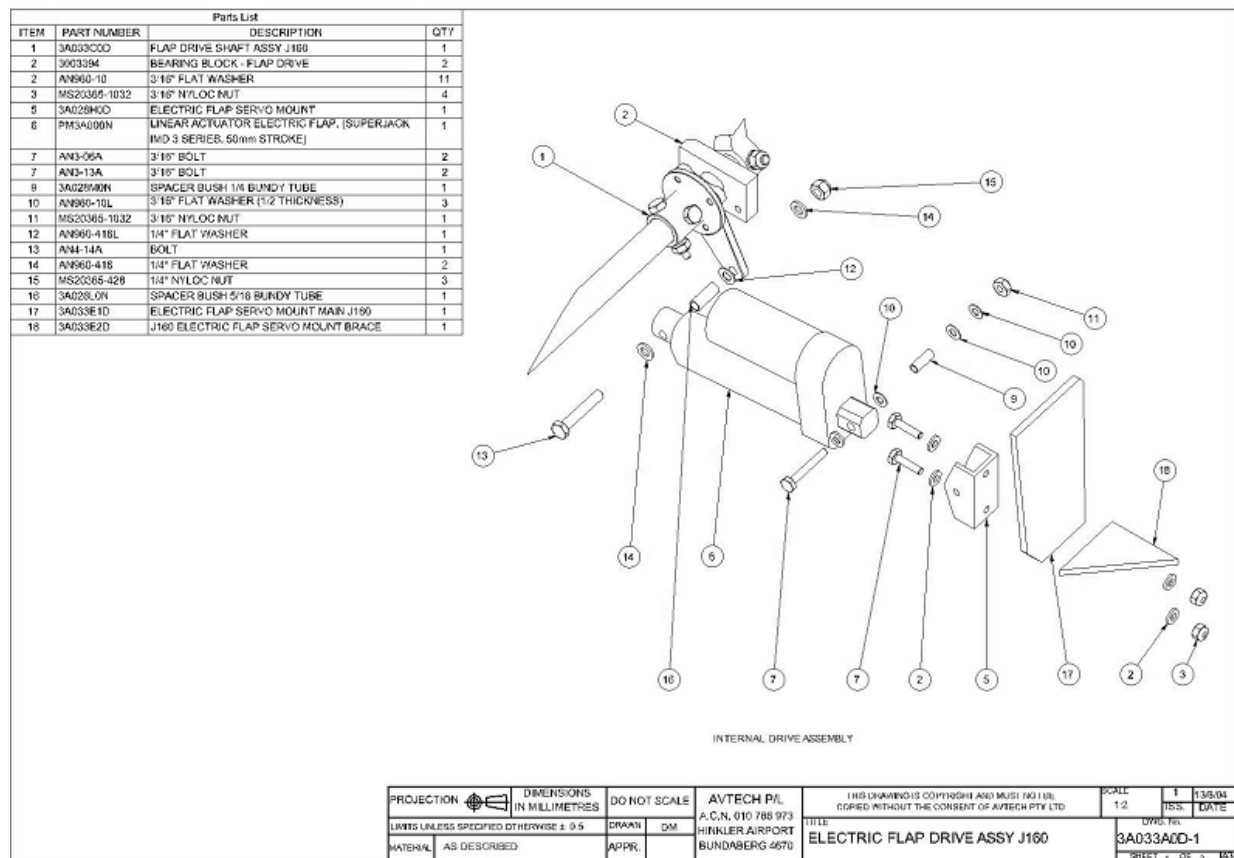
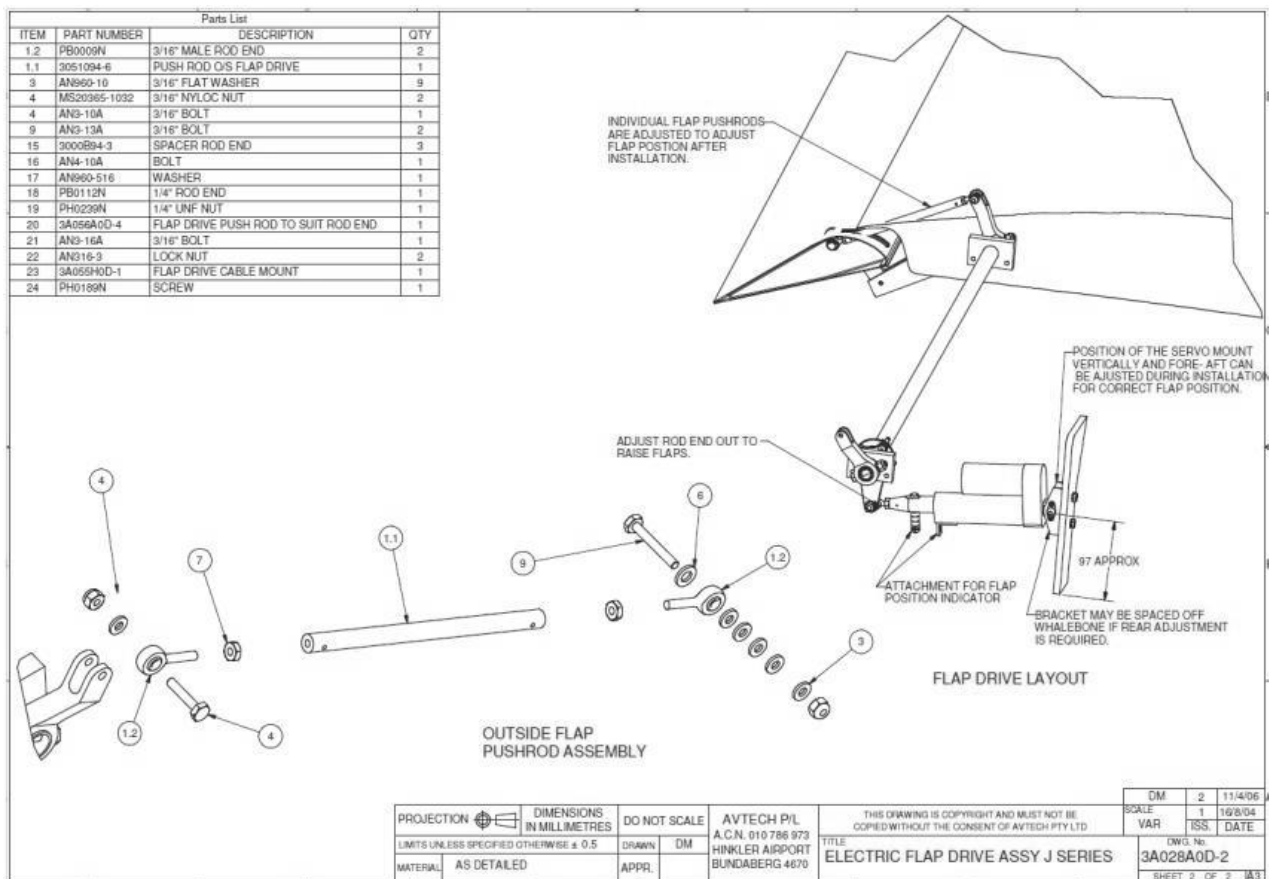

Figure 115 – Flap Controls – Sheet 1 (Fibreglass Motor Mount) (all J-Series)
Figure 121 – J200 Family Electric Flap System Sheet 2 (J200/J400, J230/J430, J250/J450)
- Drawings of the systems are shown as Figure 115 through to Figure 121